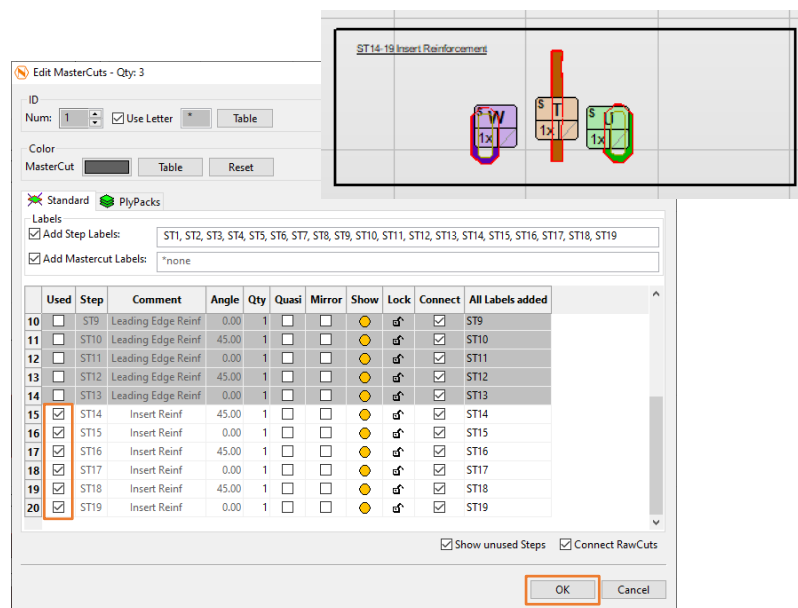

Figure 276
72. Repeat these steps for the insert Reinforcement steps. They are assigned to steps 14, 15, 16 17, 18 and 19 (Figure 276).